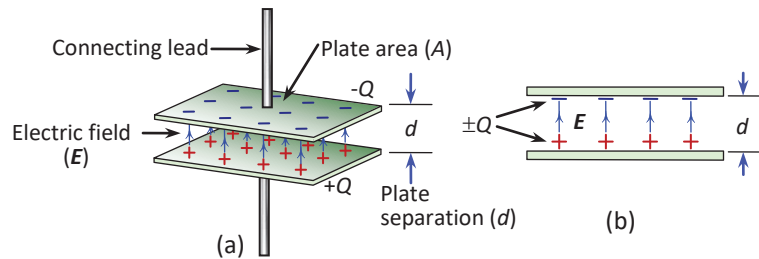

Fig.1-11: Components of a parallel plate capacitor with charge and field: (a) 3-D view, and (b) 2-D view
When potential difference is applied across a capacitor, negative charge accumulates on one plate and positive charge on the other plate as shown in Fig.1-11. Due to these opposite charges between the dielectric film, an electric field is developed. The ability of a capacitor to store charge is called **capacitance** and is denoted by  $C$ . The SI unit of capacitance is Farad (F), which is equal to one coulomb per volt (1 C/V). The capacitance of a capacitor will be 1 F, if the capacitor can store 1 Coulomb charge for 1 V potential difference applied to its plates. Farad is a very large unit, so the practical unit of capacitance is microfarad ( $1\mu\text{F} = 10^{-6}\text{F}$ ).